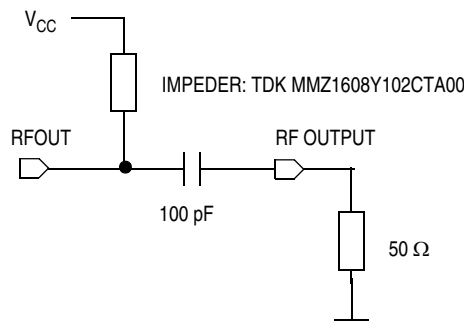

Figure 14-4. Output Power Measurement Configurations
- Output load is $50\ \Omega$ resistor (see Figure 14-4)
The RF output levels given in the 14.8.1 UHF Module Electrical Characteristics are measured with a 50-Ω load directly connected to the pin RFOUT as shown in figure Figure 14-4. This wideband coupling method gives results independent of the application.